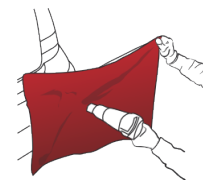
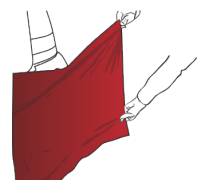
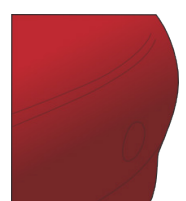

Figure 12
Figure 13
Figure 17
- › Heat the vinyl to a temperature ranging from 40 °C to 50 °C (from 104 °F to 122 °F) (FIG. 12) (from 30 °C to 40 °C (from 86 °F to 104 °F) for the HX45CA890B, HX45CA891B, HX45CA892B), then stretch the film so as to completely wrap the convex surface. (FIG. 13)
- › The application is completed. (FIG. 17)
! As regards the SKINTAC HX45000 films with structured effects (carbon effect), particular care must be taken when heating the stretched film. (FIG. 12) to (FIG. 17) The hot air gun or the gas torch must never be held at a right angle to the surface of the film. It should be inclined so as to heat a larger surface area. Keep the hot air gun moving all the time. Never heat a small surface area over a prolonged period.